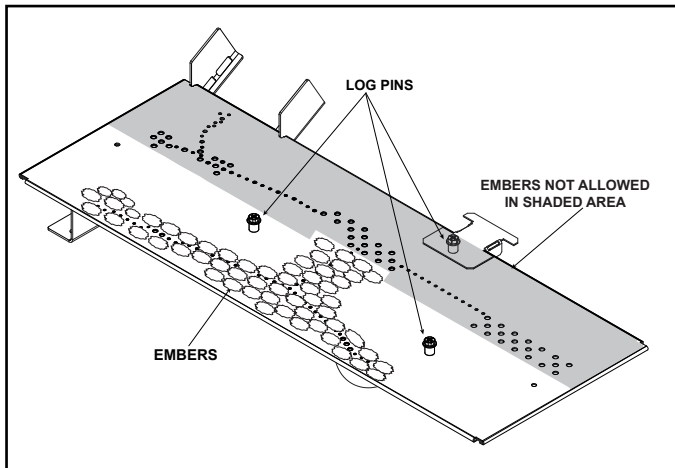
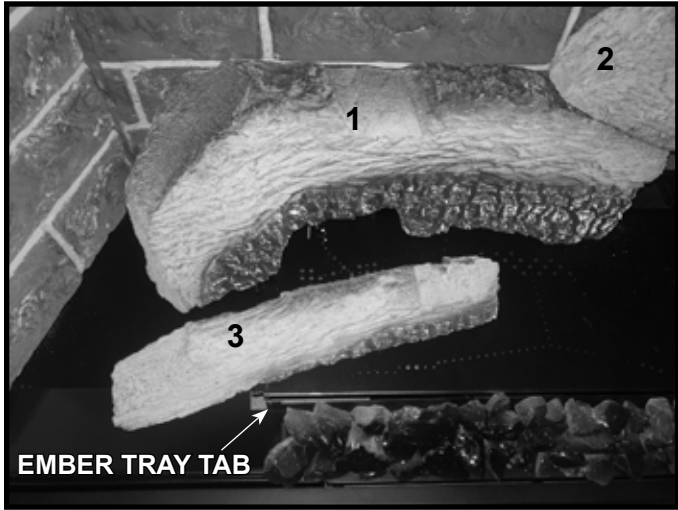

Figure 2 Log Pin and Glowing Ember Locations
Figure 5 Install Log #3
1. **LOG #1:** Locate and install the Log #1 by installing the right end of the log over the rear log pin. See Figure 2 for log pin locations. Then rotate the left end of the log until it contacts the rear refractory panel. See Figure 3.
3. **LOG #3:** Locate and install Log #3 by installing the “right” end of the log over the left burner pin and pressing “down” to engage log pin. See Figure 2 for log pin locations. Rotate Log #3 counterclockwise until it contacts the ember tray tab as shown in Figure 5.
4. **LOG #4:** Locate and install the Log #4 by installing the “left” end of the log over the right log pin and pressing “down” to engage the log pin. See Figure 2 for log pin locations. The face of the log should contact the right ember tray tab. See Figure 6.
5. Locate the glowing embers and install them as shown in Figure 2. Do not install any glowing embers on the back row of burner ports. Glowing Embers can be placed directly over burner ports. However, for optimal front flame height place embers around burner ports.